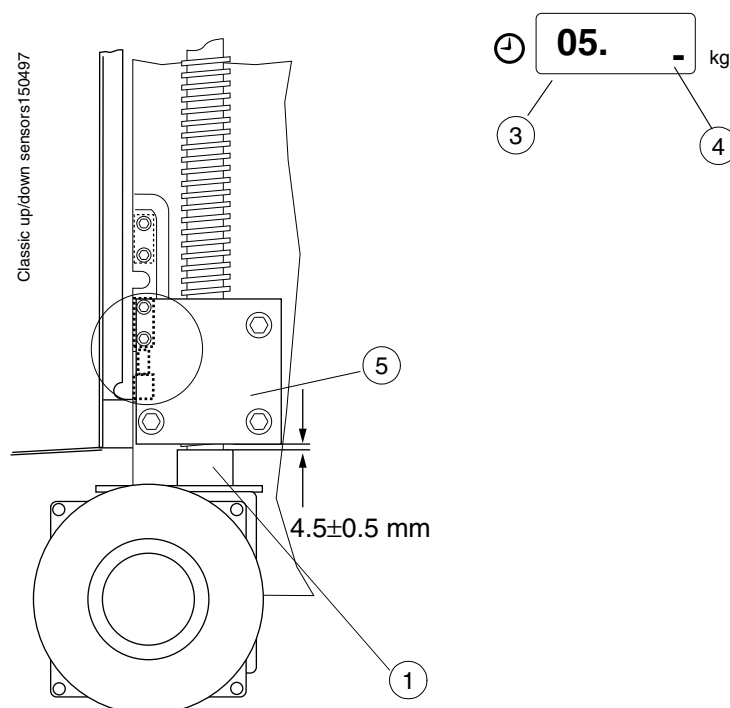
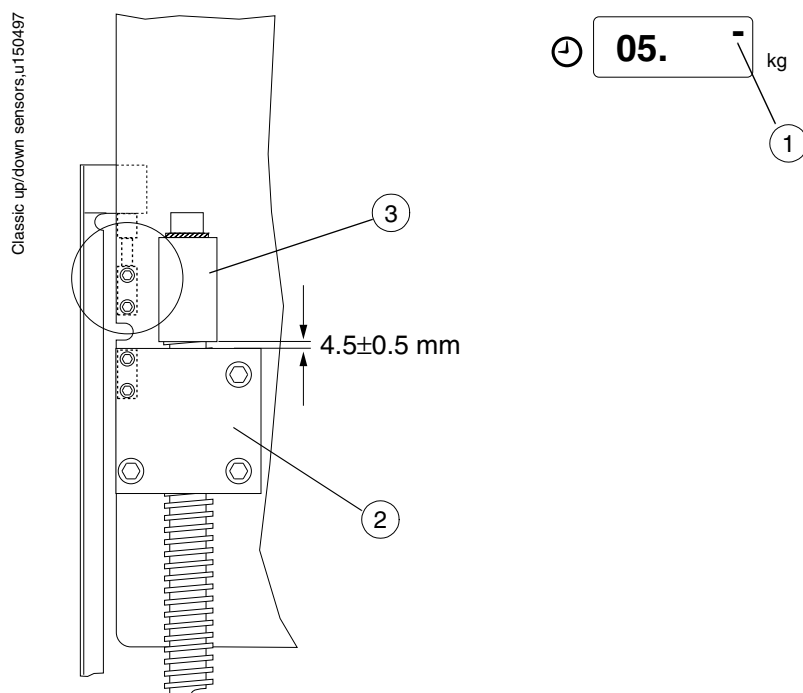

Figure F.33
Figure F.35
- Check that the mechanical limits of the lift motor (Fig. F.33, 1) and (Fig. F.35, 2) are in their positions.
- Enter the service mode and select the display of internal signals mode 05 (Fig. F.33, 3).
- Drive the moving column to the lower limit with the C-arm up/down switches (Fig. F.33, 4).
- Check that the right lower signal on the display (5) lights when the worm-screw nut (Fig. F.33, 6) is at  $4.5 \pm 0.5$  mm space from the spacer (Fig. F.33, 1).
- b) Check that the right upper signal on the display (Fig. F.35, 1) lights when the worm-screw nut (Fig. F.35, 2) is at  $4.5 \text{ mm} \pm 0.5$  space from the worm-screw cap (Fig. F.35, 3).
- b) Enter the service mode and select the display of internal signals mode 05 (Fig. F.33, 3).